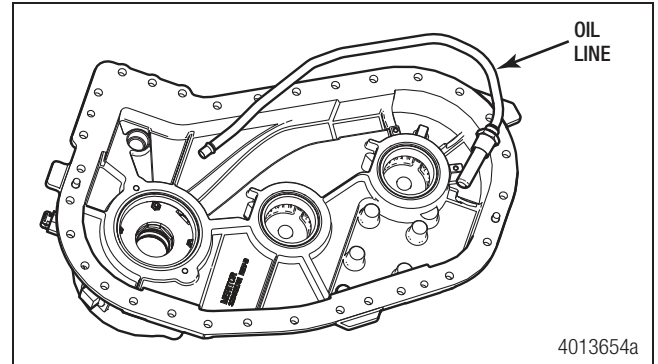

Figure 6.21
1. Place the oil line in the rear case half. Figure 6.21.